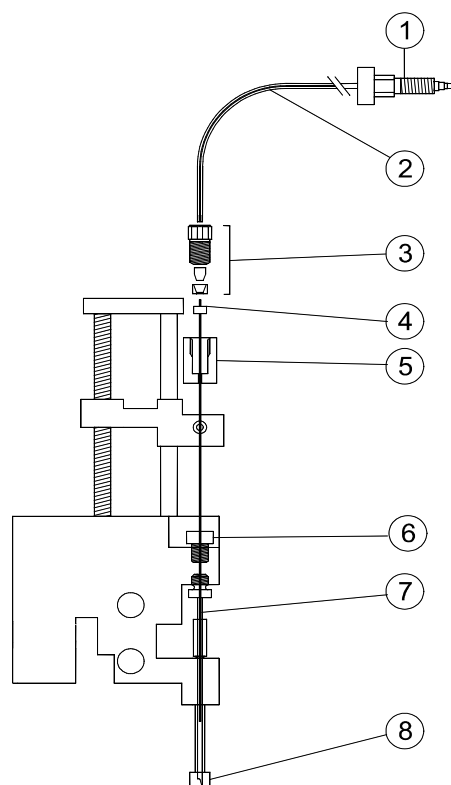

Fig. 8. Needle assembly
- sample needle: placed inside the hollow pre-puncturing needle; used for the actual transport of sample. Different types of needles can be used here (refer to options mentioned in Appendix D). If a needle with deviating diameter is used, a different air outlet nut (see Fig. 8 [6]) must be used that matches the injection needle.
The following elements can be identified in the needle assembly (Fig. 8):
2. Remove the standard air outlet nut (Fig. 8 [6]) and replace it by the nut supplied with the optional sample needle.